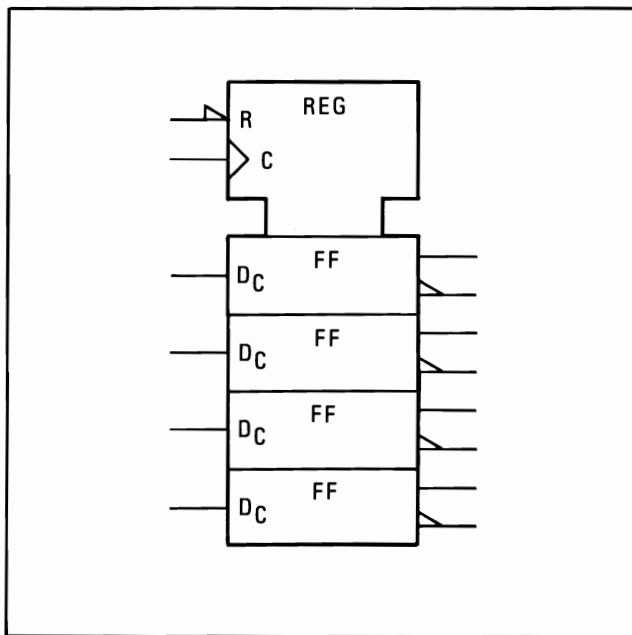

Figure 8-19. Quad D-Type Latch
Quad D-Type Latch. The Register Control Block is used to illustrate a quad D-type latch (Figure 8-19). There is a common active-low reset (R), and a common edge-triggered control input (C). Since there is only one dependency relationship, the controlling input is not numbered and the controlled functions (D) are subscripted with a C.